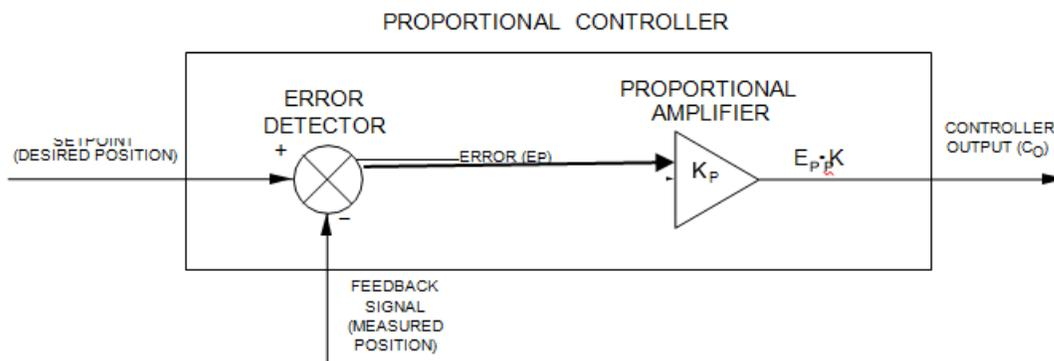

Figure 4-3. Diagram of a controller operating in the proportional (P) mode.
As mentioned previously, the operation mode of the controller determines the type of mathematical operations performed on the error detector output signal in order to produce a change in the motor inputs. The simplest control mode is the proportional (P) mode. Figure 4-3 shows the diagram of a controller operating in this mode: